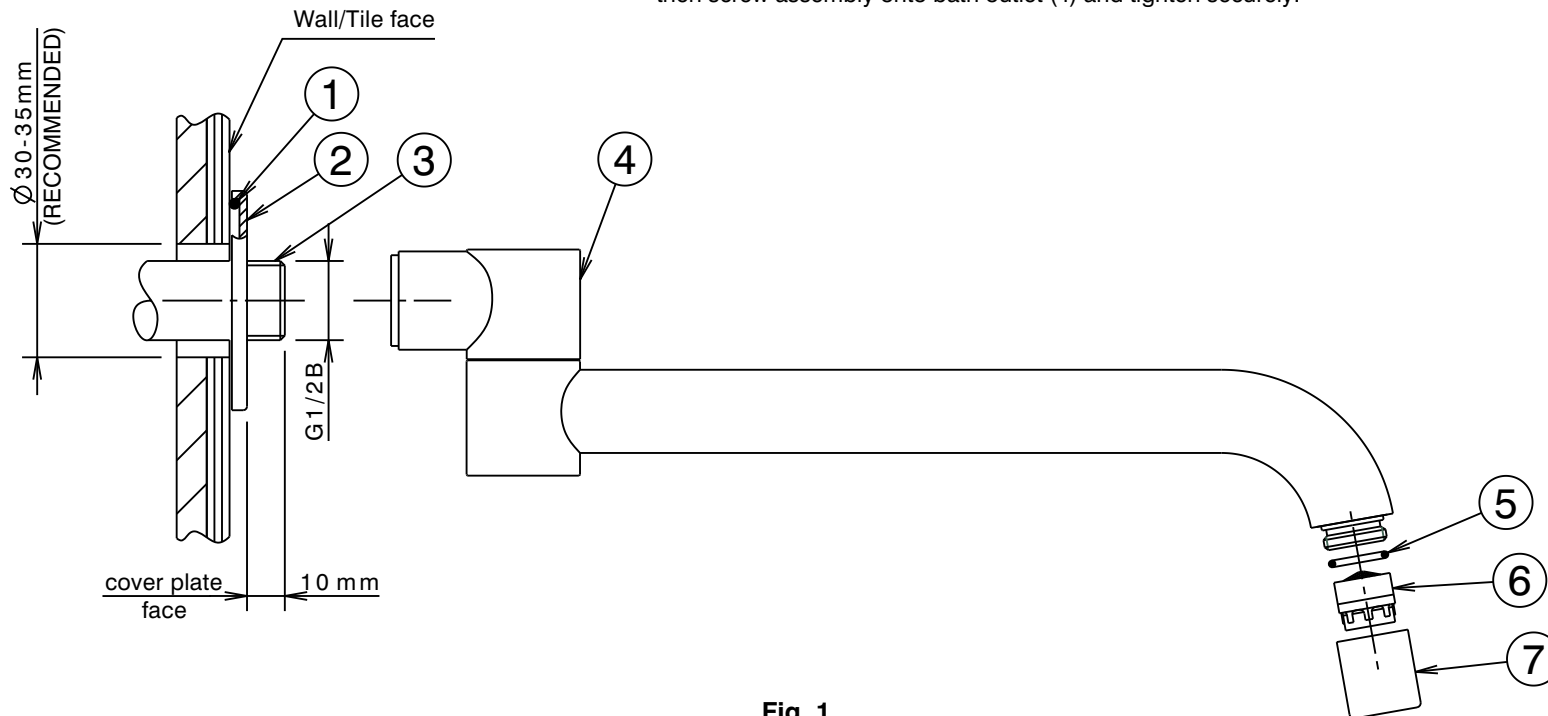

Fig. 1
- 1) Fit the cover plate (2) together with 'O'ring (1) over threaded nipple (2) and check that the thread is the correct length, as shown (Fig.1). Cut to length if required ensuring end face is square. Apply thread tape to the thread.
- 2) Screw the wall outlet (4) onto the threaded nipple (3) and position as required. DO NOT OVERTIGHTEN.